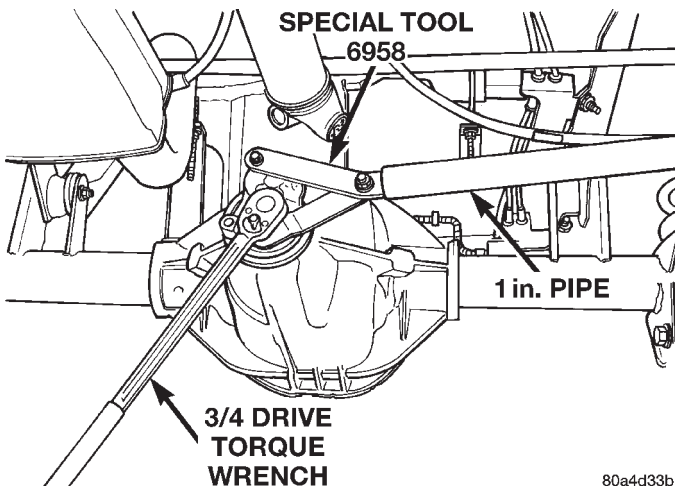

Fig. 11 Tightening Pinion Shaft Nut
(6) If the rotating torque is low, use Holder 6958 to hold the pinion yoke (Fig. 11), and tighten the pinion shaft nut in 6.8 N·m (5 ft. lbs.) increments until the proper rotating torque is achieved.